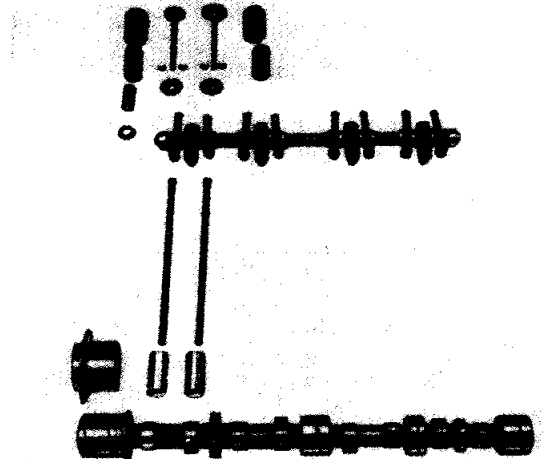

Fig. 9 **Exploded view of Valve Operating Gear.**
Inlet valves are provided with two springs. Three springs are used on the exhaust valves only (Fig. 9). Valve springs are located by a valve collar and held in position by split taper collars. The close coil of the valve springs must always be fitted to the cylinder head.
- (h) **The Camshaft** (Fig 9) is of special iron alloy having chilled cam faces and is provided with four journals. The front journal is accommodated in a flanged cast iron bearing, whilst the other journals are mounted direct in the cylinder block.